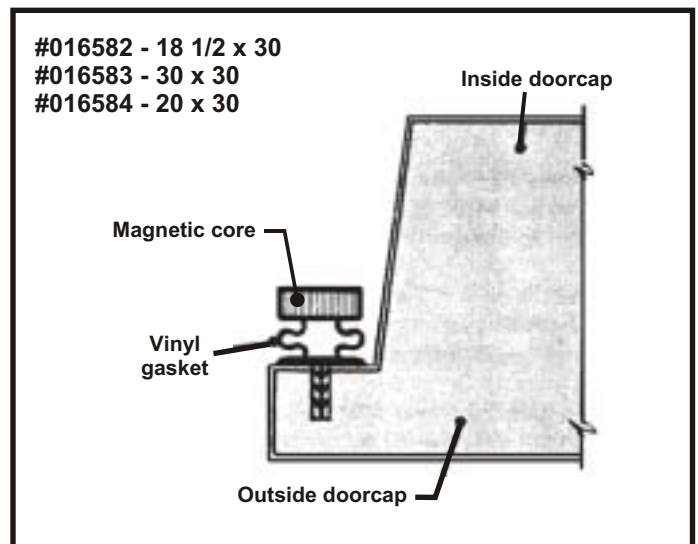

Fig. 11
- C. Position the new gasket and tap firmly into place with a wood block and hammer. Be sure the gasket lies flat as shown in Fig. 11.
- B. Position the new gasket, starting at the top corners. Tap it into place with a wood block and hammer. Do not stretch the gasket to make it fit. Be sure the gasket lies flat as shown in Fig. 11. Replace the door.